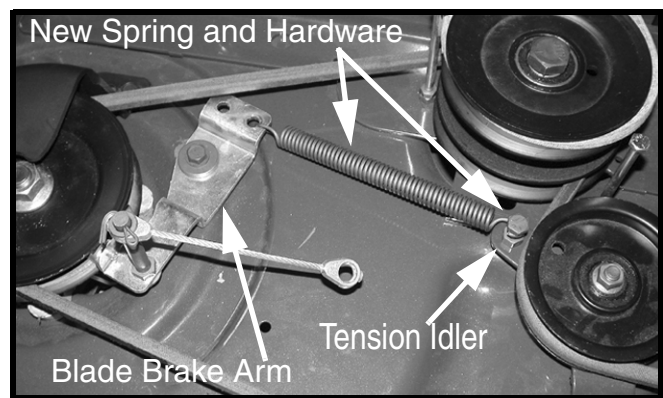

FIGURE 2
6. Refer to Figure 2. Using a spring puller, remove the original spring between the tensioning idler and the blade brake arm. **CAUTION:** Spring is under load.
9. Install the new Extension Spring, Item 4, as shown in Figure 2.